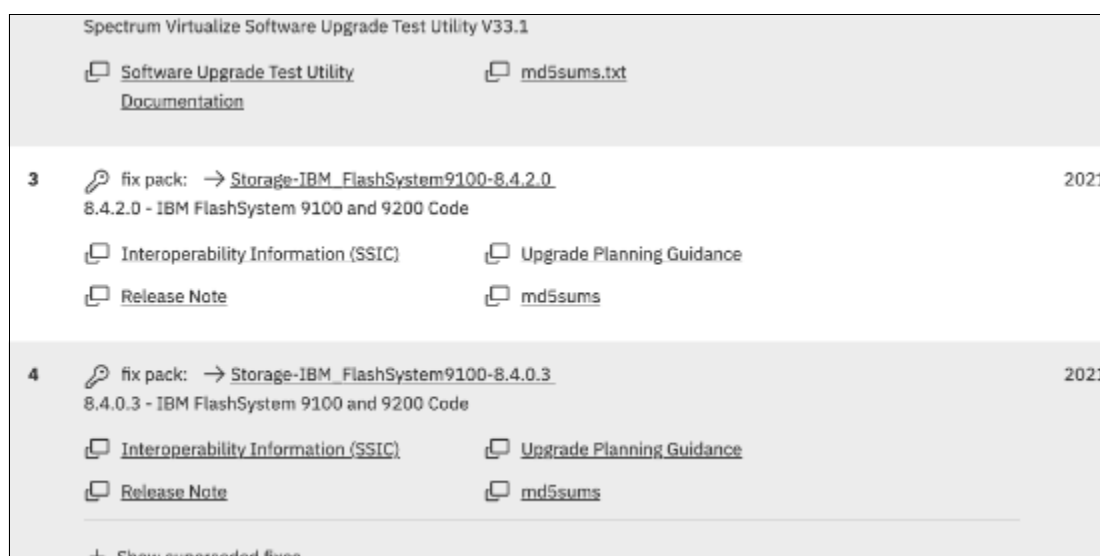

Figure 10-3 Fix Central software packages
4. In the Product Software section, select the three items that are shown in Figure 10-3.